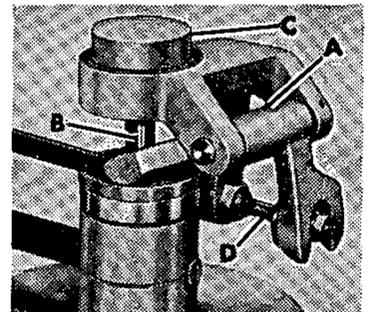
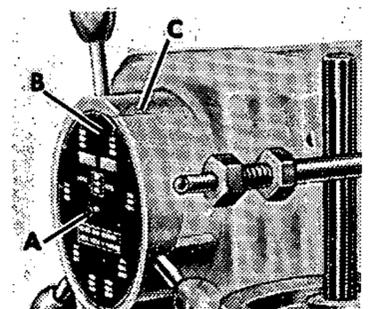

Figure 3
Figure 4
1. Oil hole in fork (A, fig. 3) — oil once a week with S.A.E. No. 20 oil.
2. Oil post (B) and rod (D) occasionally with S.A.E. No. 20 oil.
3. Lubricate pulley bearing (C) once a month with ball bearing grease.
4. Once a year, clean and grease (medium cup grease) cam in handwheel (C, fig. 4). To disassemble — loosen screw (A) and remove plate (B); remove handwheel by taking out center bolt.